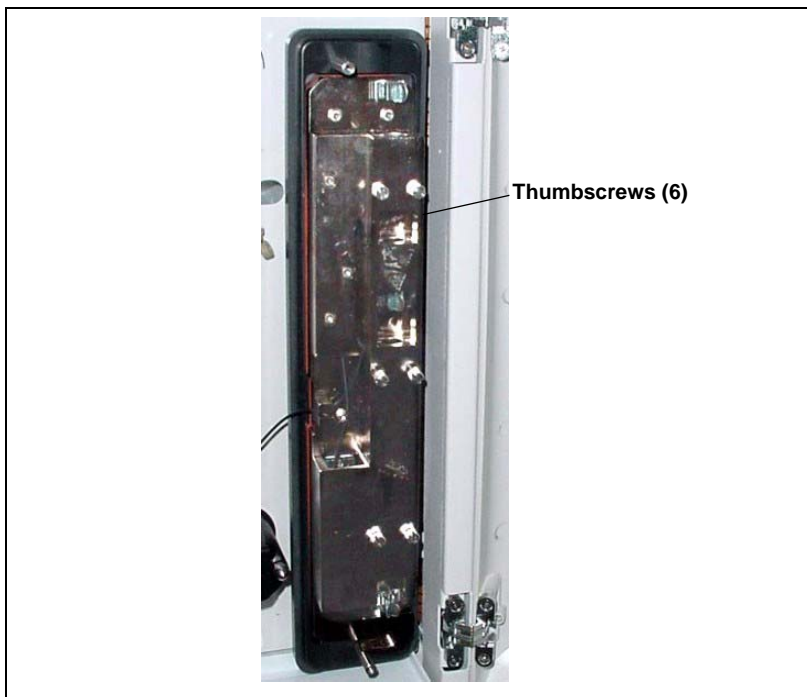

Figure 5-13. ICS-1000 Column Heater Cover Removed
- c. Unscrew the six thumbscrews on the top metal plate (see Figure 5-13) and remove the plate.